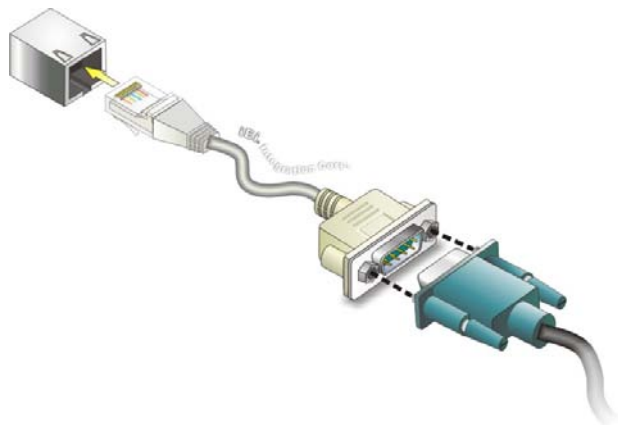

Figure 3-16: Serial Device Connector
Step 3: Insert the serial connector. Insert the DB-9 connector of a serial device into the DB-9 connector on the cable. See **Figure 3-16**.